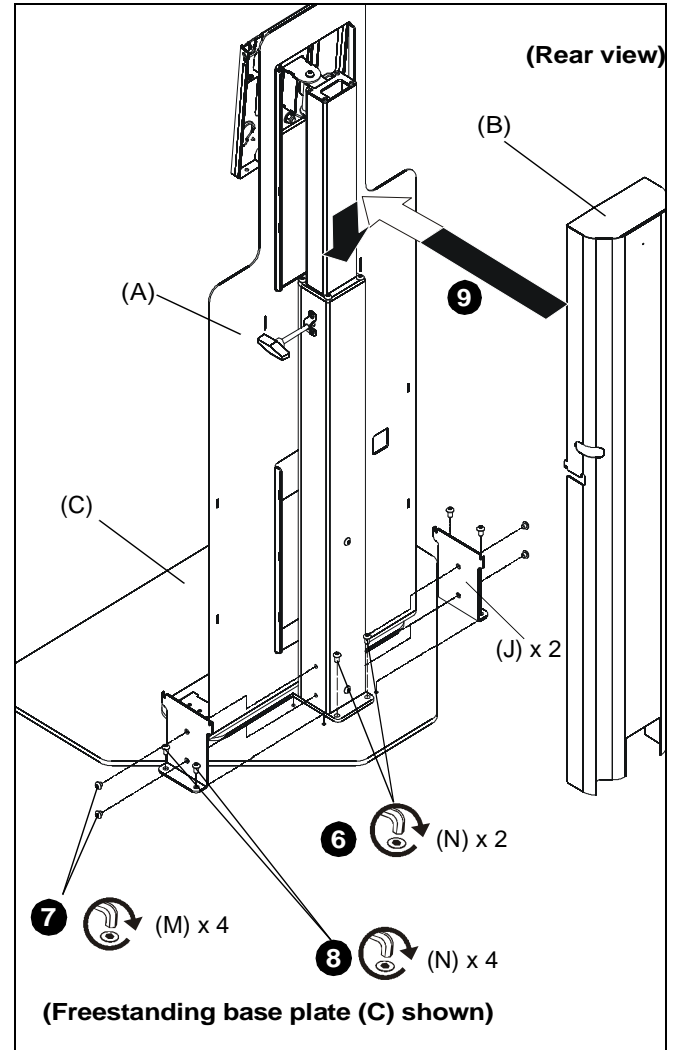

Figure 2
6. Install two 5/16-18 x 1/2" button head cap screws (N) into the rear holes behind the column assembly to secure column assembly to base plate. (See Figure 2)
7. Install four 5/16-18 x 1/4" button head cap screws (M) to secure the two gusset plates (J for freestanding, F for wall mount) to the column assembly. (See Figures 2 and 3)
8. Install four 5/16-18 x 1/2" button head cap screws (N) to secure the two gusset plates (J for freestanding, F for wall mount) to the base plate. (See Figures 2 and 3)
9. Install back column (B) to column assembly (A). (See Figure 2)